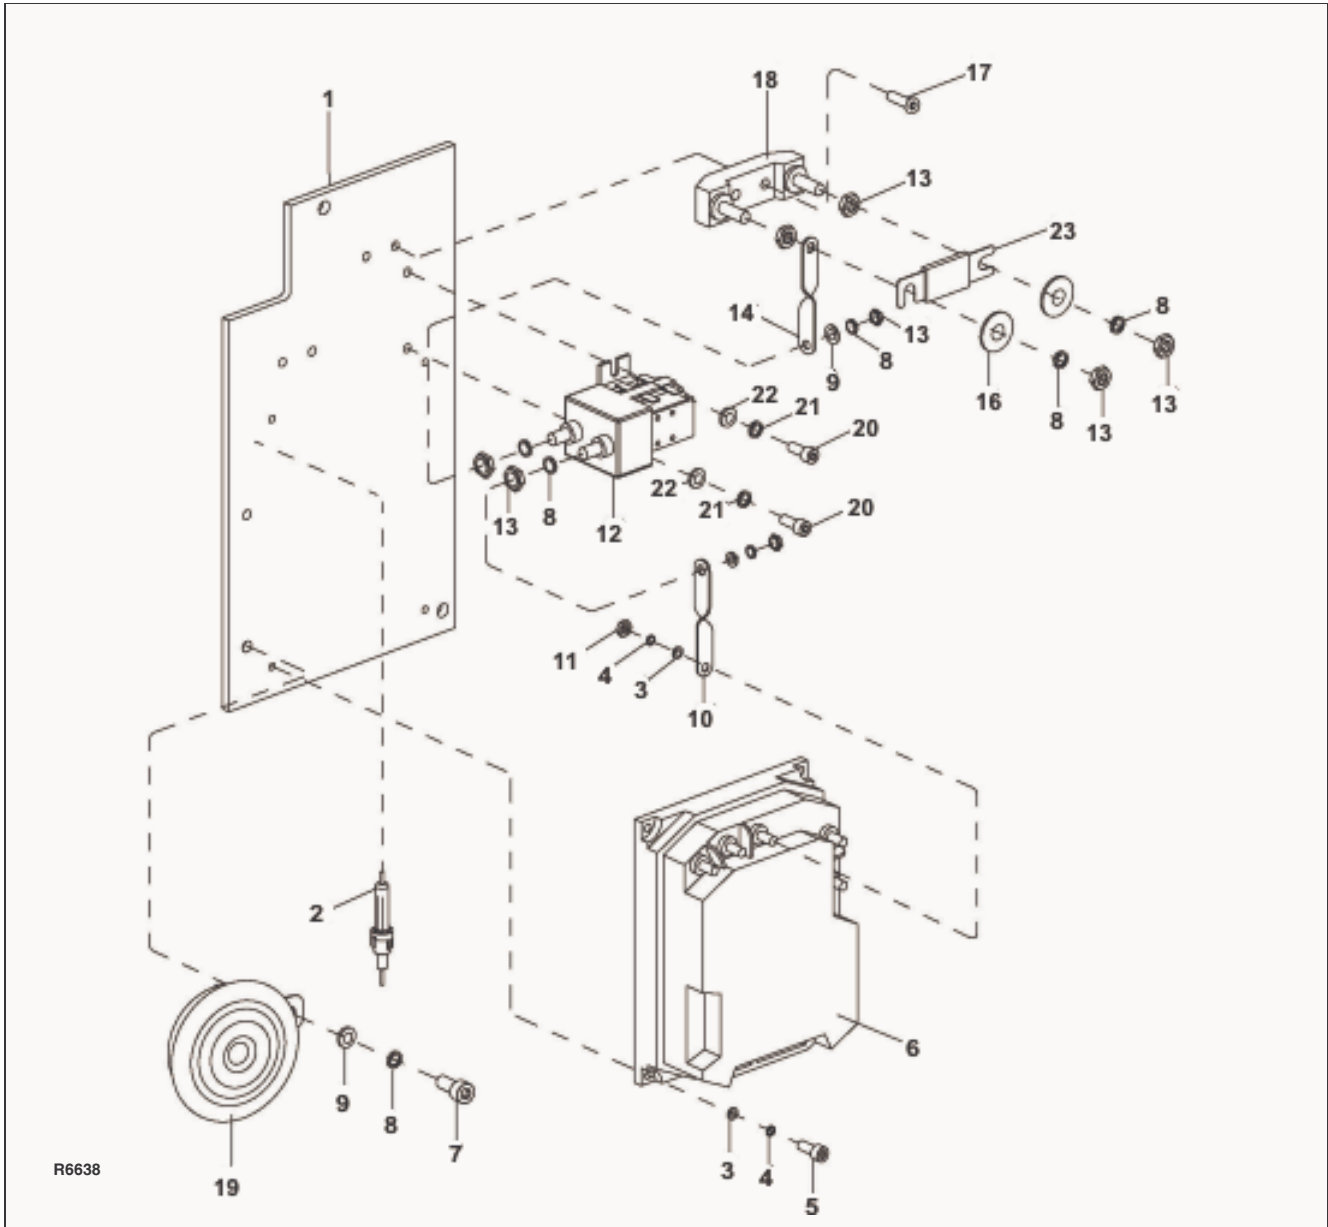

Figure 10-2 Electrical Panel
Refer to Figure 10-2 for location and identity of the major replacement components mounted on the panel and remove defective parts.
3. Tag and disconnect all electrical connections from horn (19, Figure 10-2).
4. Remove screw (7), washer (8), flat washer (9), and horn (19).
5. Install horn (19) and secure with screw (7), washer (8), flat washer (9).